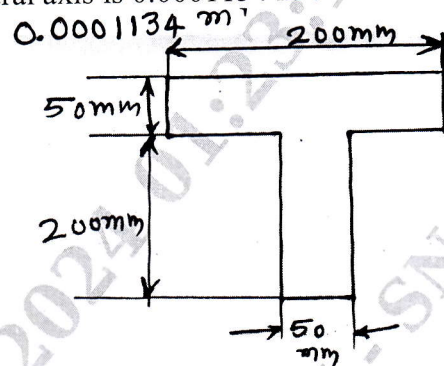

Fig Q4(b)
b. A T- shaped cross –section of a beam shown in Fig Q4(b) is subjected to a vertical shear force of 100kN. Calculate the shear stress at the neutral axis, junction and flange, moment of inertia about horizontal, neutral axis is 0.0001134 m^4 .